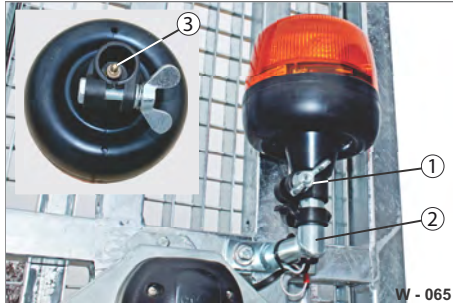

Fig. 65 Rotating light
- ▶ Release the wing nut (Fig. 65/1).